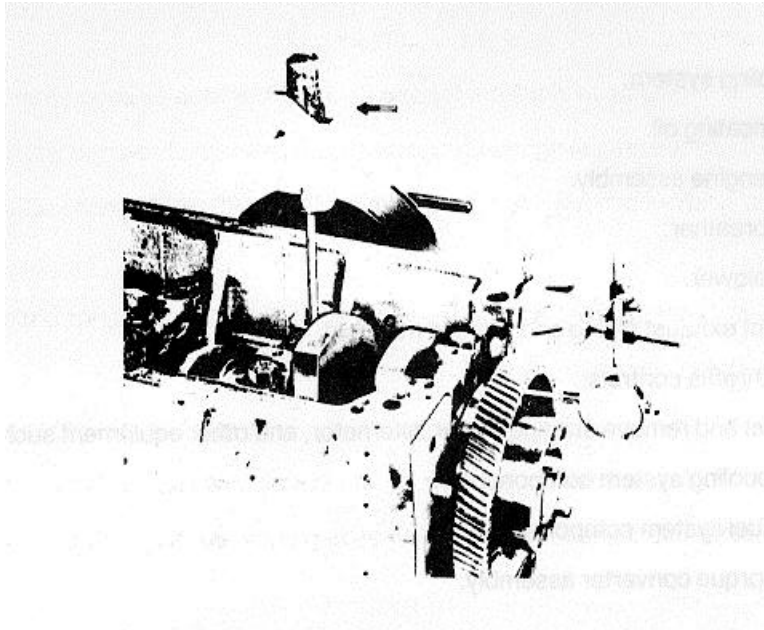

Figure 6-32. Crankshaft End Play.
- (1) Install upper grooved bearing shells in cylinder block.
- (2) Apply clean engine oil to crankshaft journals. Attach a rope or strap sling to a suitable hoist and lower crankshaft into position. Make sure timing marks on crankshaft gear match idler gear timing marks.
- (3) Check backlash with mating gear. Backlash must be .003 to .008 inch and a maximum of .007 inch on used gears.
- (4) Install upper bearing thrust washer halves on each side of rear bearing shell. Install lower doweled thrust washer halves in each side of rear main bearing cap.
- (5) Install lower shells in caps. Install caps in their original position on crankshaft. Lubricate the cap bolt threads and head contact areas with a suitable compound before installation. Draw bolt up snug. Then, tap bearing caps lightly with a soft hammer to seat properly. Tighten cap bolts, starting with the center bolts and working alternately towards both ends of block.
- (6) Rotate crankshaft to make sure it rotates freely.
- (7) Check crankshaft end play as illustrated in Figure 6-32. Move crankshaft toward gage and keep constant pressure on tool. Set dial indicator to zero. Then, remove and insert screwdriver on other side of bearing cap. Force screwdriver in opposite direction and note amount of end play on dial. The clearance must be 0.004 to 0.011 inch with new parts and a maximum of 0.018 inch with used parts.
- (8) Install pistons and connecting rods (para 6-34).
- (9) Install crankshaft from cover and pulley in reverse of disassembly sequence.
- (10) Install flywheel housing.
- (11) Install oil pump inlet assembly and pan (para 6-21).
- (12) Install cylinder head (para 6-17).
- (13) Install engine assembly.
- (1) Refer to Figure 6-32 and remove all plugs and scrape all old gasket material from the block.